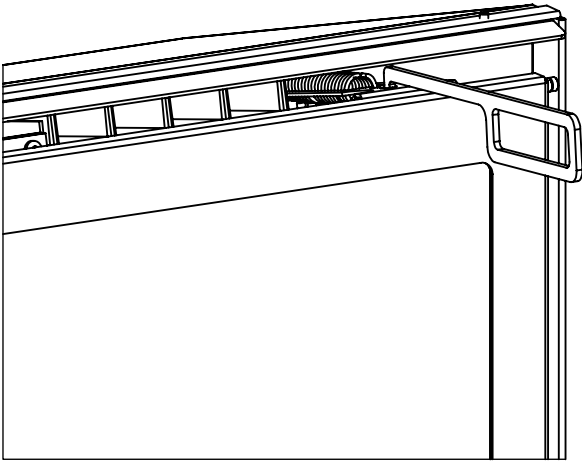
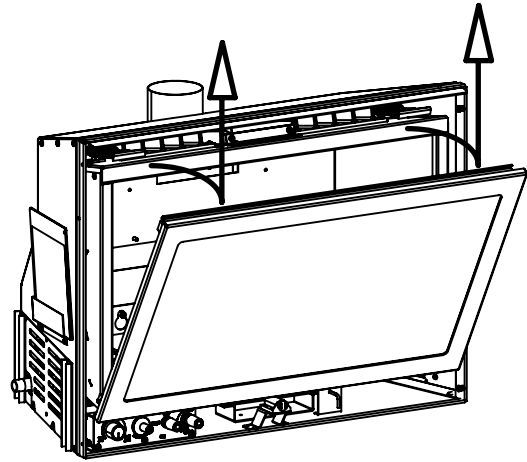

Figure 19: Door Release.
Figure 20: Door Removal.
Remove the glass door by placing the hooked end of the door release tool in the hole on the door latch mechanism (see Figure 19) and pulling the latch out then up over the lip on the door. When the two (2) latches have been released, tilt the door forward and then lift up to unhook the bottom door tabs (see Figure 20).